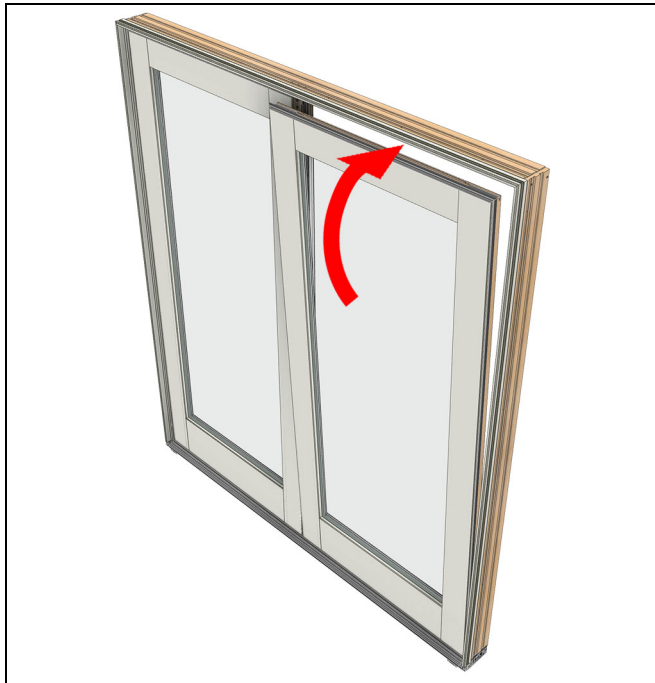

Figure 21
1. For doors with an OO panel configuration (such as OO, OOO, XOOX etc.) install the next stationary panel. install the second stationary panel. Tip the panel into the frame. See Figure 21.